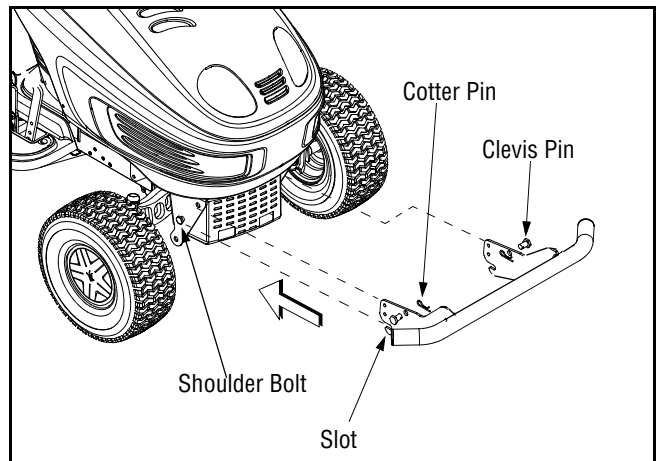

Figure 1
- To mount the bumper to the tractor, hook the notched ends (slots) of the bumper onto the shoulder bolts on the sides of the tractor frame. See Figure 1.